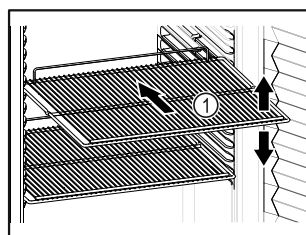

Fig. 55 Example illustration
- ❑ If storage surfaces Fig. 55 (1) are movable, adjust them according to height.